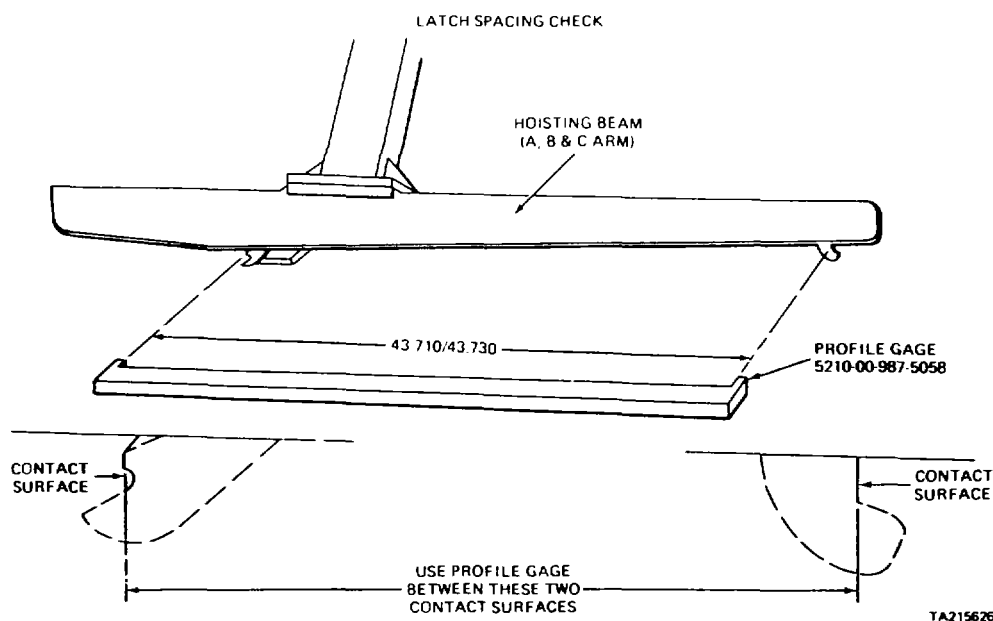

Figure 3-7. Latch and Release Mechanism - Latch Setting Adjustment Using Profile Gage
- (14) Using profile setting gage, special tool (8, fig. 1-2) (fig. 3-7), adjust latch spacing to dimensions specified in figure 3-3 as follows:
- (a) Remove straight headed pin (16) and pull straight headed pin (8) to free link rod (11).
- (b) Slide link rod (11) aft through the hole in housing until locknut (14) and connector (15) are accessible.
- (c) Adjust connector (15) as required to obtain specified dimension.
- (d) Tighten locknut (14); reinsert link rod (11) in housing and install straight headed pins (8 and 16).